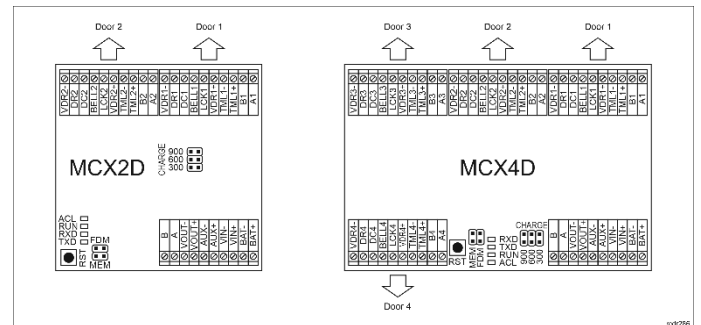
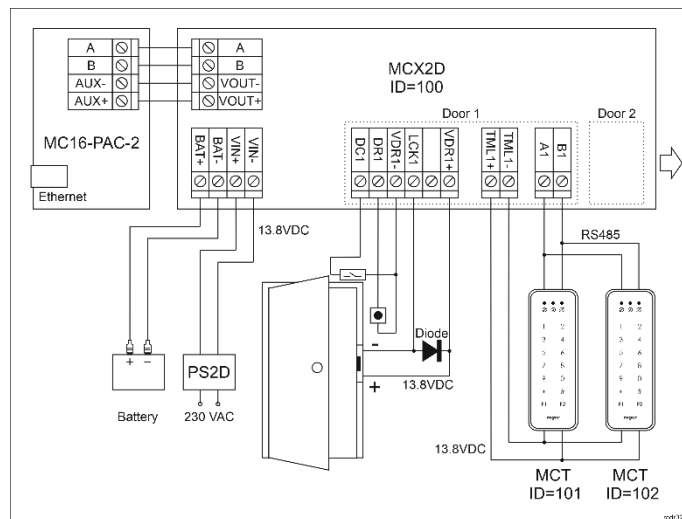

Fig. 3 View of MCX2D and MCX4D expanders
Fig. 4 Connection of readers and expanders to MC16 access controller (sample only)
Note: Remote configuration of device from VISO v2 software is possible only if jumper is placed on MEM contacts (fig. 3). If the jumper is removed then such configuration is blocked. In case of factory new device, jumper is placed on MEM contacts.
In RACS 5 v2 system the expander can be installed at site without previous configuration. According to AN006 application note, its address and other settings can be configured from VISO v2 management software and during such configuration the access to its service contacts (fig. 3) is not required.
2. Remove jumper from MEM contacts (fig. 3) if it is placed there.
According to fig. 4 the expander charges backup battery. Table 2 includes current values which ensure 80% battery charging within 24 hours (according to EN-60839 standard). The charging current is selected by means of jumpers on expander board (fig. 3).
2. Place jumper on FDM contacts (fig. 3).
In case of MCX4D the connection diagram is similar to the one shown in fig. 4 with the exception of MC16-PAC-4 controller, PS4D power supply unit and up to four doors control. All MCT readers connected to the MC16 controller via MCX2D/MCX4D expander must have unique addresses on RS485 bus in range of 101-115 (assuming that expander is operated with default ID=100 address). In case of read-in door, single reader is connected to the controller within particular door. Diagrams include doors with electric strikes. In case of electromagnetic lock, the polarity of LCK output must be changed within low level configuration of MCX2D/MCX4D expander by means of RogerVDM software. Diagrams include exit buttons. In case of read-in/out doors they can be used for emergency door opening.